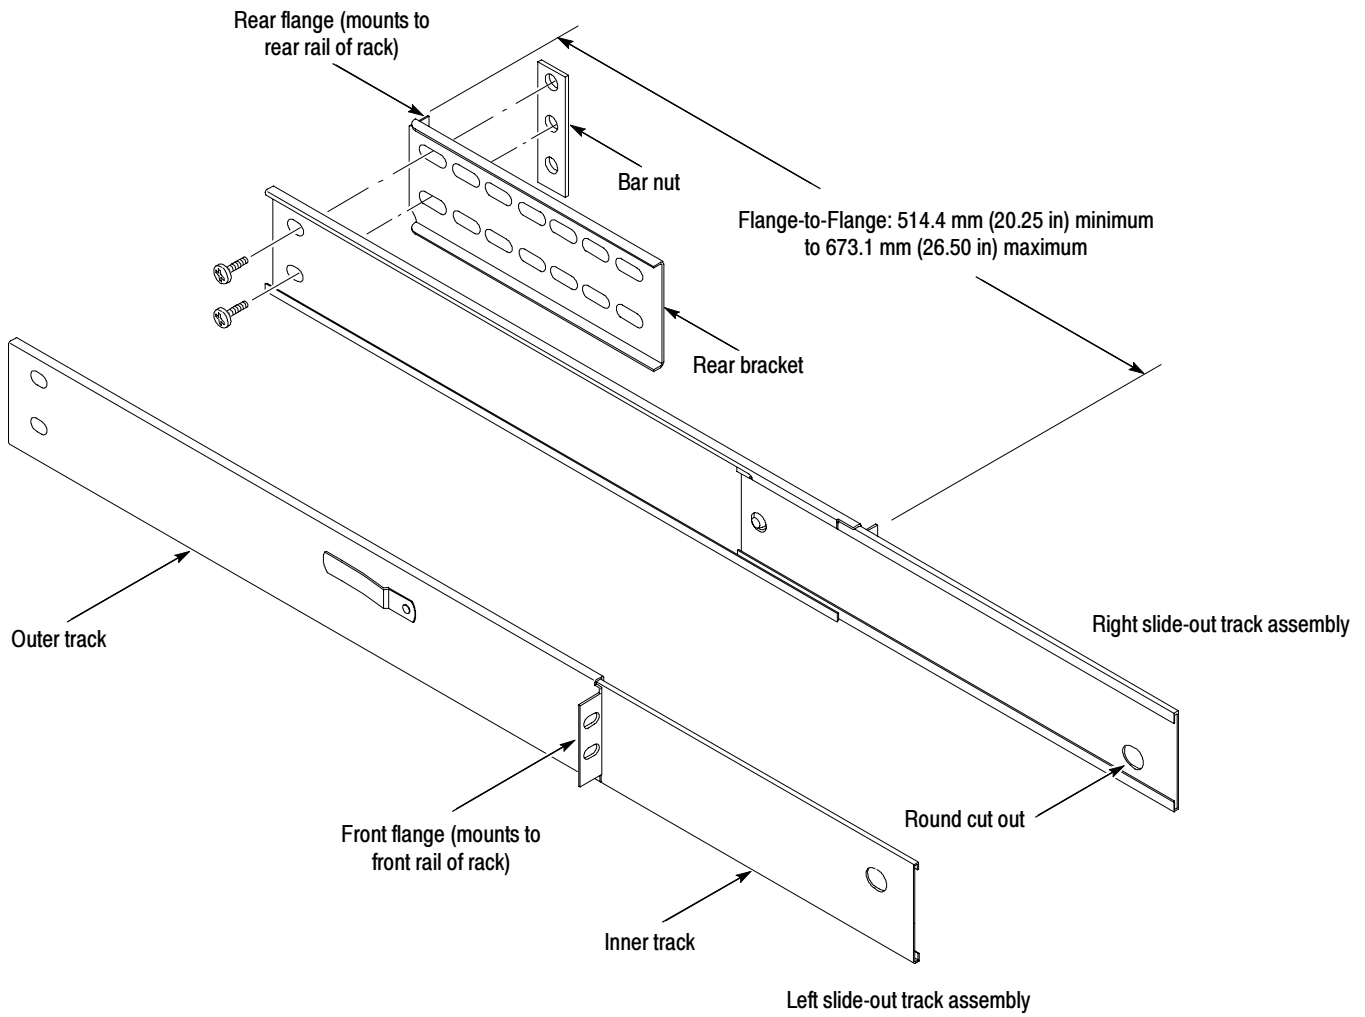

Figure 15: Assembly of slide-out track assemblies
- b. Align the rear bracket to the right slide-out track as shown in Figure 15. Note that the rear bracket has multiple pairs of mount-through holes. When aligning the bracket and track, be sure to select a pair of holes that mount the rear bracket so that the flange-to-flange distance matches the distance between the front rail and rear rail measured in step a.